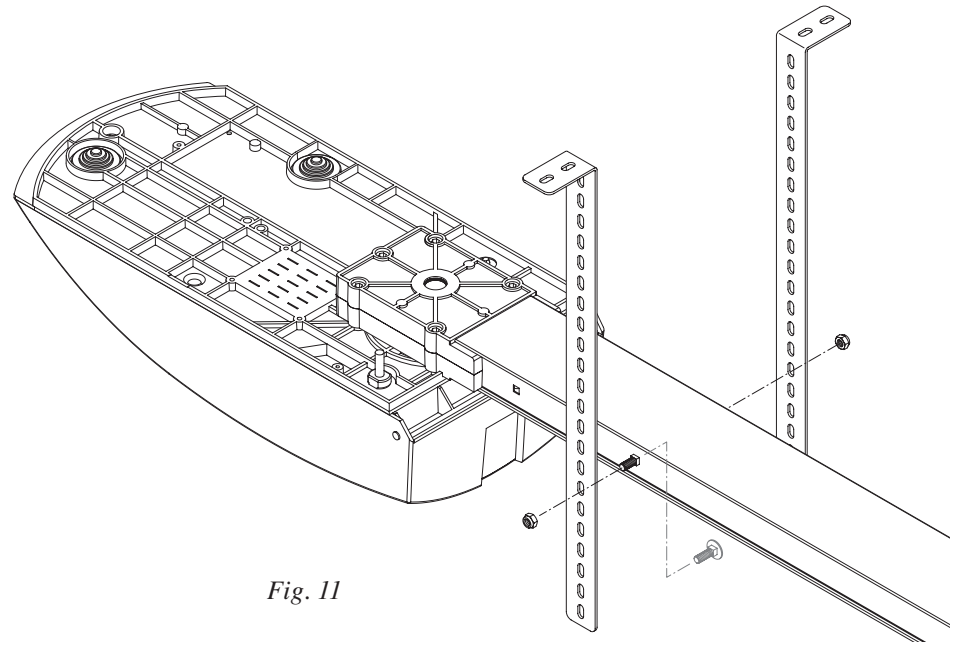

Fig. 11
- Position the fitting brackets to ceiling by means of the special housings in the track, near the gear motor (Fig.11) and fix them by means of screws M and nuts D. Two fitting brackets for mounting to ceiling are supplied with PTC.4 and PTC.L4 tracks. They must be fitted near the joining point of the tracks.